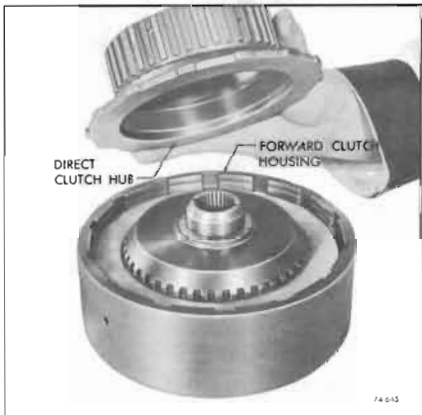

Figure 74-645
2. Remove the direct clutch hub. See Figure 74-645.